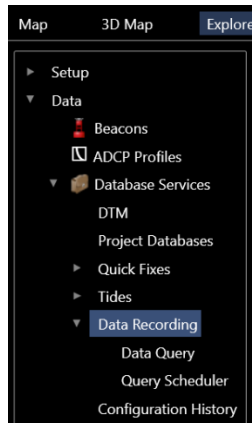
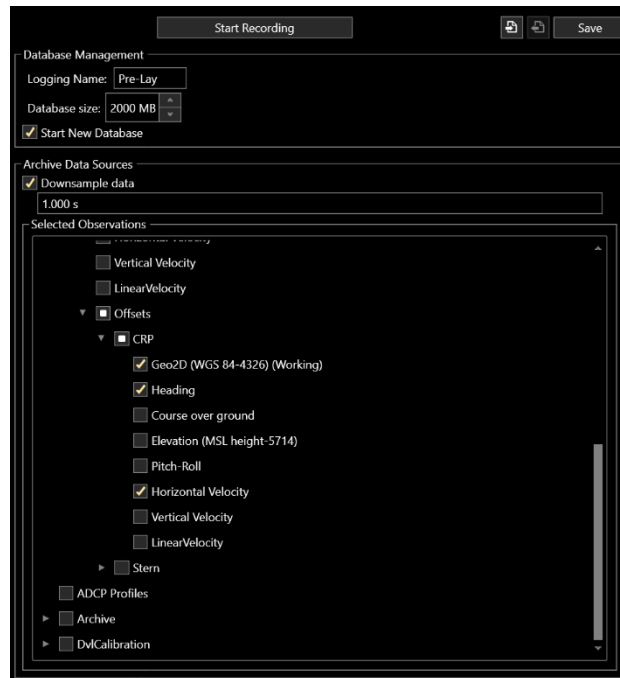

FIGURE 14-66 DATA RECORDING - EXPLORER
FIGURE 14-67 DATA RECORDING - CONFIGURE DATA RECORDING
1. Open the Explorer window and navigate the tree to select **Data Recording** (see Figure 14-66) this will open the data recording configuration dialog (see Figure 14-67)
2. In **Database Management** (see Figure 14-67)
1. Open the Explorer window and navigate the tree to select **Data Recording** (see Figure 14-67)